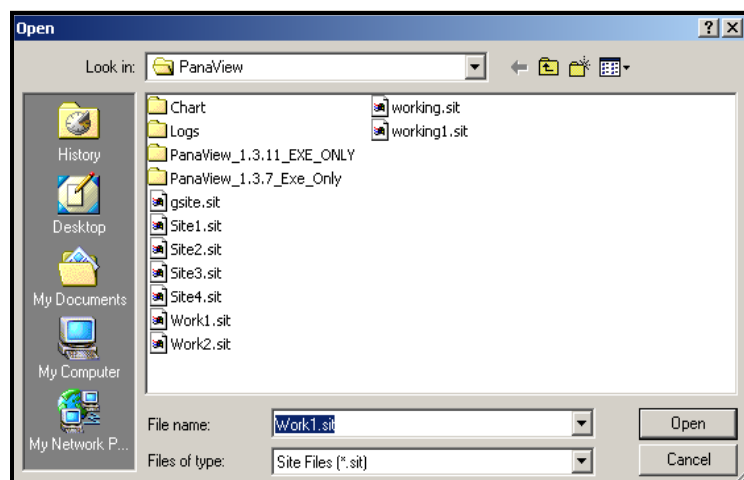

Figure C-18: Site File Selection
2. Then click on the [Save Site to Meter] button. A screen opens similar to Figure C-18 below.
2. Click [Save Site to PC]. A window opens similar to Figure C-18 on page C-56.
3. The *Site File Selection* window (as in Figure C-18 on page C-56) opens. Enter the desired site name (now with a .prt suffix) and click on [Save]. PanaView displays a text version of the site, as shown in Figure C-20 below.